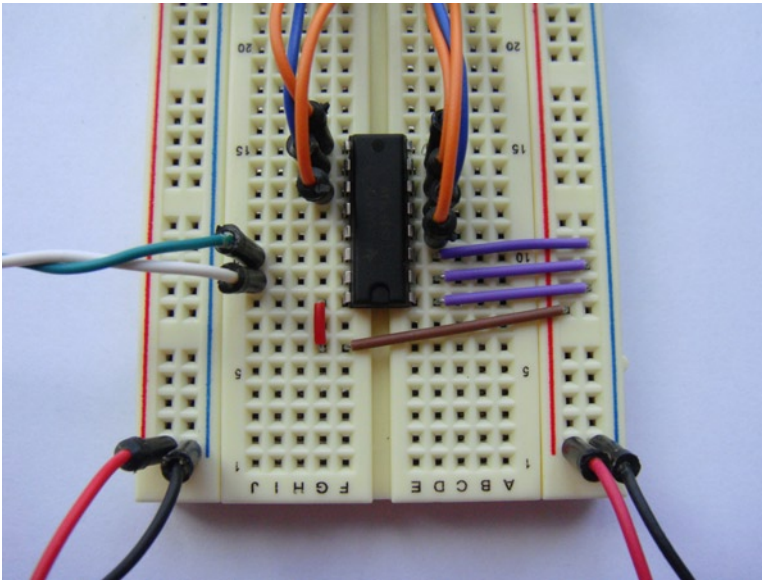

Figure 4-15. *Finished breadboard*
4. Lastly, in Figure 4-15 I add in the hook-up wire for the I2C lines and the lines for the LCD.